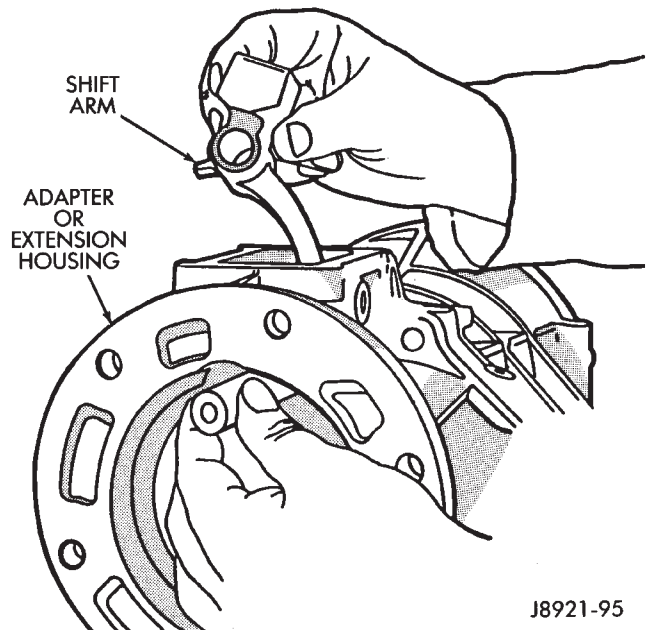
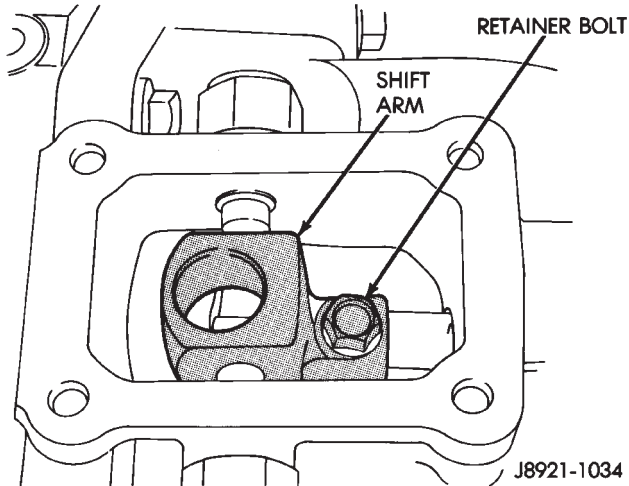

Fig. 43 Install Shifter Arm Shaft
Fig. 44 Install Shift Arm Retainer Bolt
(11) Start shifter arm shaft in hole in back of adapter[extension] housing. Align shift arm and shifter arm shaft and insert shifter arm shaft through the shifter arm and into the forward portion of the adapter[extension] housing (Fig. 43).
(12) Rotate the shifter arm shaft until the hole in the shift arm is aligned with the hole in the shaft.
(13) Install the shift arm retainer bolt and tighten to 38 N·m (28 ft. lbs.) (Fig. 44).